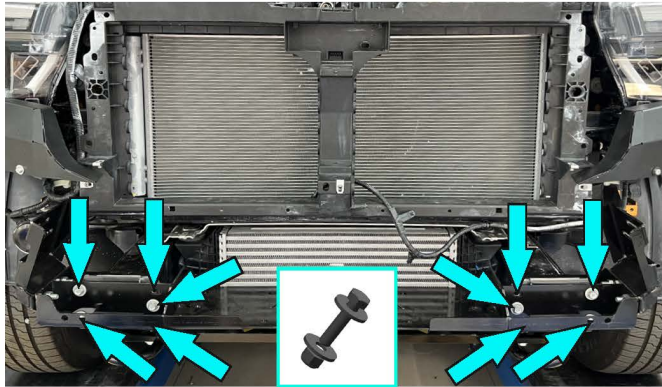

Fig.20
20. Install winch bracket (item 21). Fix on frame using OE bolts, bolts M8x30, nuts M8, washers 8 (item D, P, J). Then fix on brackets for reinforcement (item 26, 27) using bolts M10x30, nuts M10, washers 10 (item F, Q, K) (fig.20).